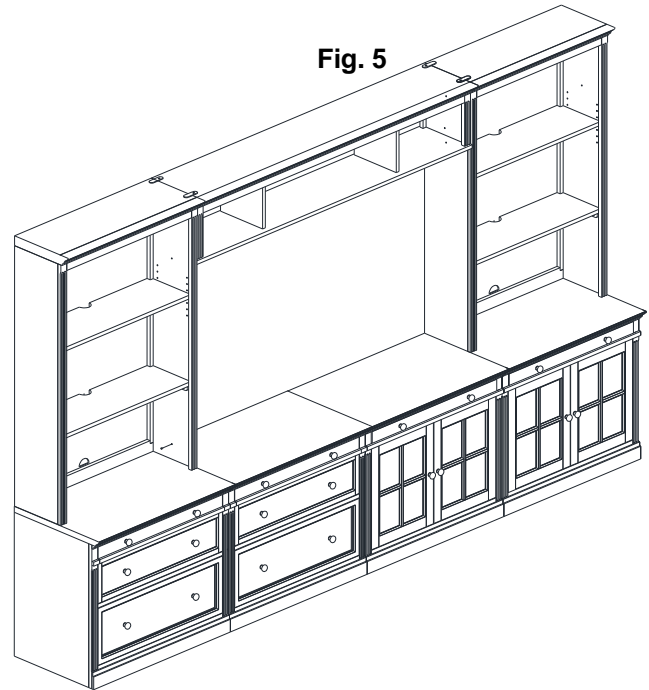

Fig. 5
- Align the holes at side panels of all cases and insert the connector bolts (D & D') then tighten with a screwdriver (Not Included) as shown in **fig. 5, illustration. 5**.